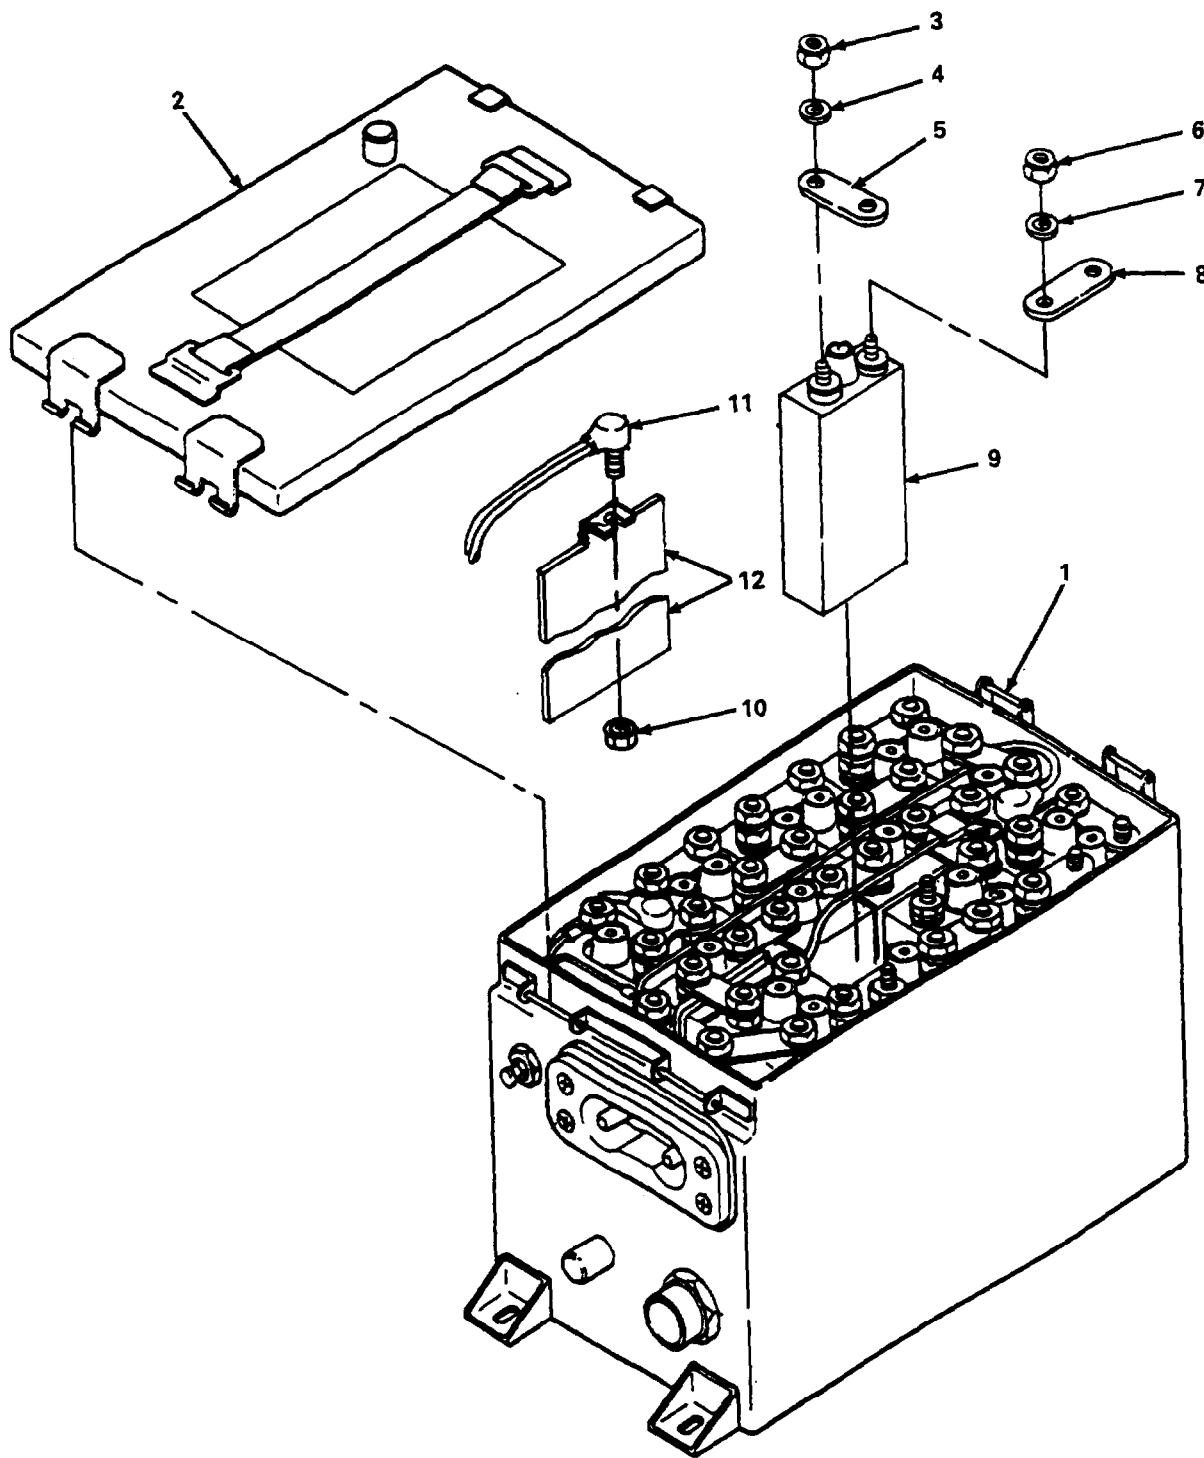

Figure 3-21. Battery BB-558/A Thermostat and Thermal Plate Replacement.
(5) Thermostat and Thermal Plate Replacement (fig. 3-21).